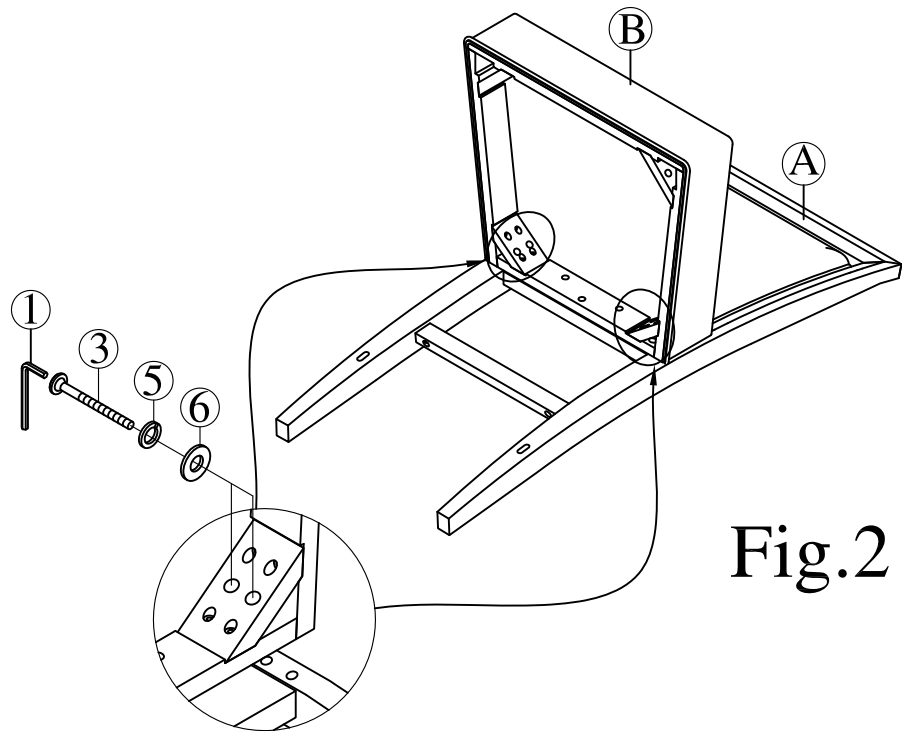

Fig.2
Step 2 : Using the provided hardware attach the Cushion Seat (B) to Back Rest (A) as shown in Fig. 2 .